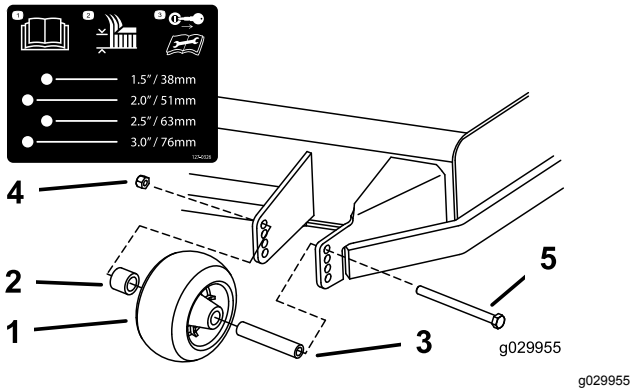

Figure 28
- Adjust the anti-scalp rollers as shown in Figure 28.